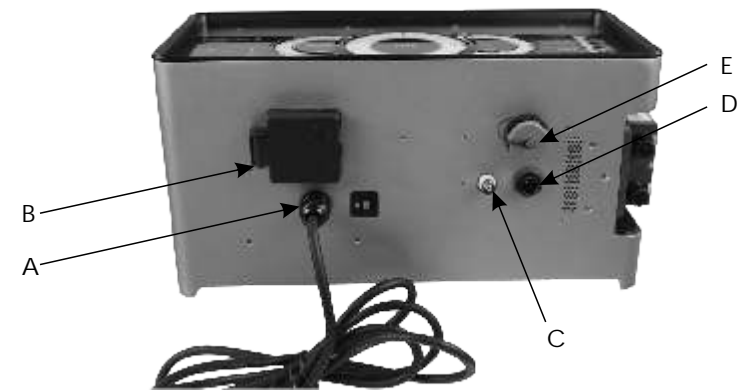

Fig. 2
7.2 CELL (Fig 2):
Proceed with the interconnections between the cell and the Control Panel according to the following drawing (Fig 2).